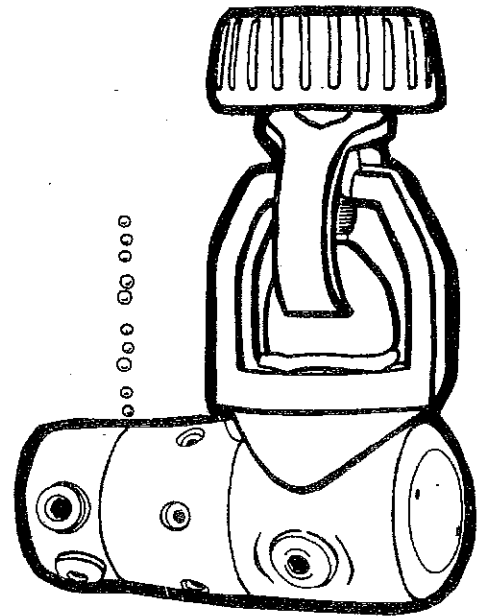

Fig. 1A
- A. Swivel area, between swivel cap and piston cap. (See Fig. 1A.)